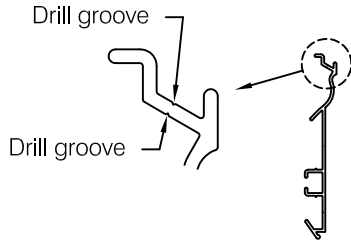
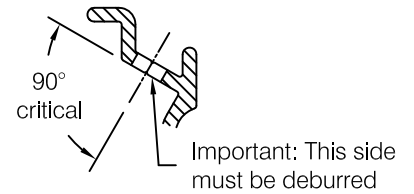

fig 2
fig 3
- Step 3:** Drill aluminum for attachment of wood handrail and wood accessory tops. Use groove in retainer to locate centerline for drilling, see **fig 2**. Drilling must be perpendicular to aluminum as shown in **fig 3**. Use a #16 (.1770) drill bit to provide clearance for a #8 fastener. Deburr all holes as noted in **fig 3** to prevent interference with wood handrail and accessory tops.
- Important:** The angle at which the screws are installed is critical, see **fig 3**. For best results drill a 1/8" diameter pilot hole for installation of the #8 fasteners.